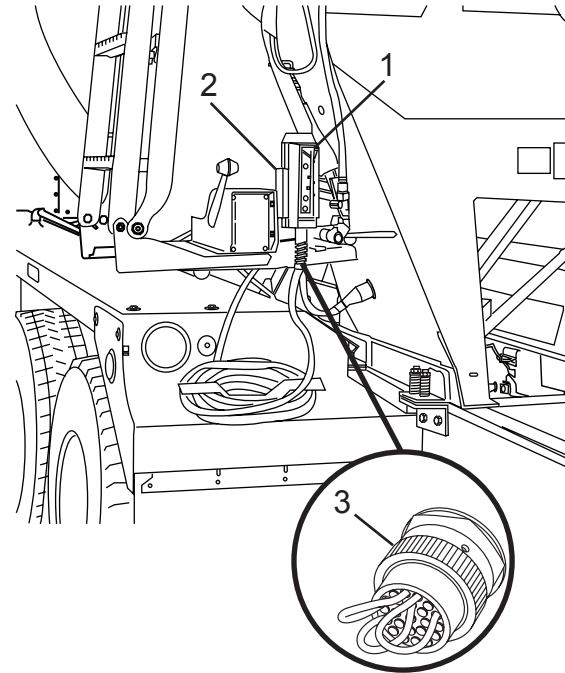

Figure 76
If the rear pendant (Figure 76, Item 1) is lost, or becomes damaged or faulty, a jumper plug (Figure 76, Item 3) must be installed in the rear pendant socket (Figure 76, Item 2) to allow operation of control functions from the cab control box.
2. Disconnect the rear pendant harness connector (Figure 76, Item 2) from the rear pedestal.
3. Install a jumper plug (Figure 76, Item 3) into the rear pendant harness connector. Purchase the jumper plug by calling Revolution Parts at (888) 209-6497.